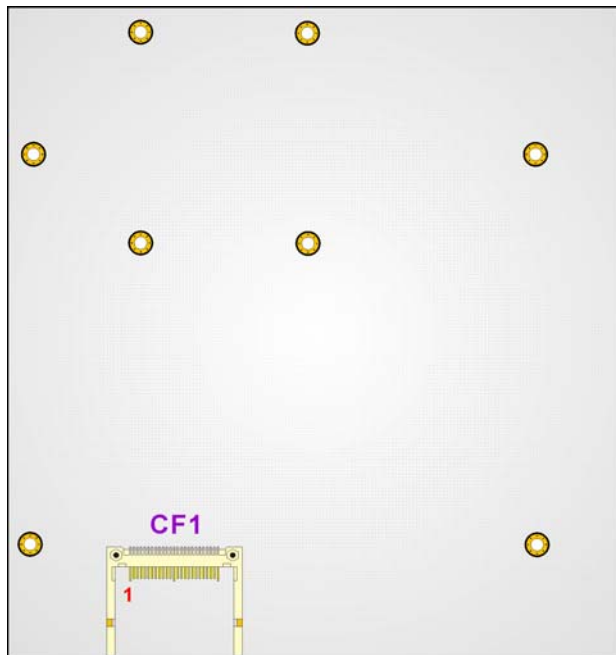

Figure 3-7: CompactFlash Connector Location
- CN Location: See **Figure 3-7**